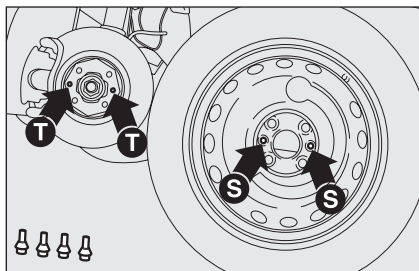

fig. 7
- install the space-saver spare wheel matching the holes **S**-fig. 7 with the corresponding pins **T**;
- Fit the normal wheel matching the holes **S**-fig. 7 with the corresponding pins **T**;